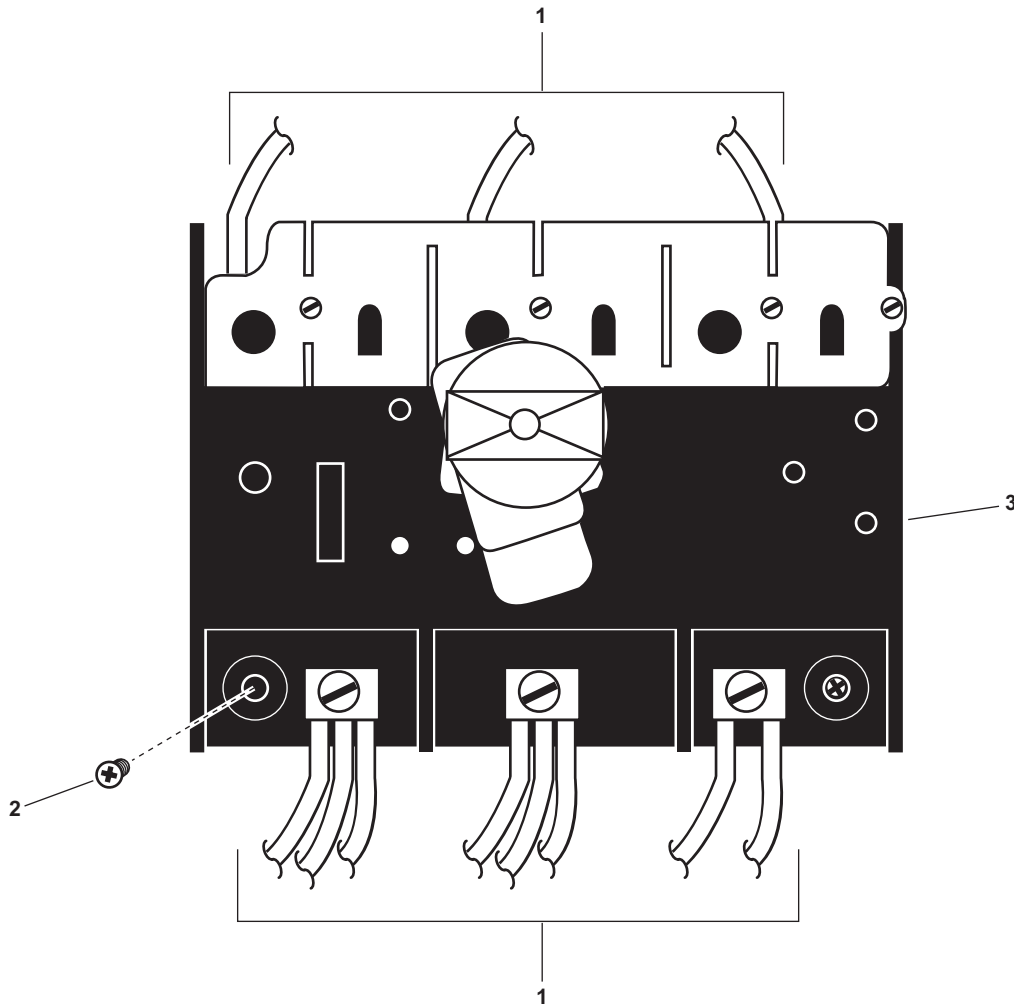

Figure 8. Interrupt Contactor Replacement
2. Label and disconnect the wiring (figure 8, item 1).
3. Remove the four mounting screws (figure 8, item 2) securing the interrupt contactor (figure 8, item 3).
4. Remove the interrupt contactor (figure 8, item 3) from the enclosure.
1. Position the interrupt contactor (figure 8, item 3) in the enclosure and secure it with the four mounting screws (figure 8, item 2).
2. Connect the wiring (figure 8, item 1) using the labels from step 2 of Removal as a guide. Remove the labels.